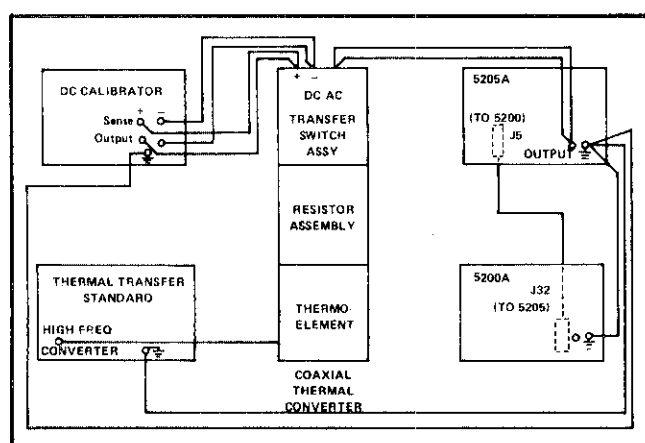

Figure 4-3. Calibrator Mode Connections
- d. Connect the test equipment as shown in Figure 4-3.